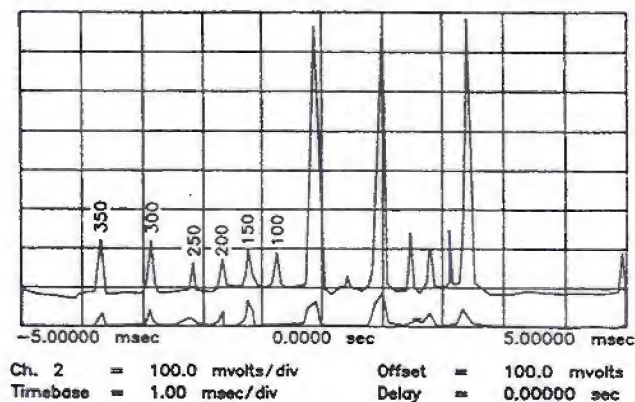

Figure 5-17. Frequency Response of Notch Filters, 765 MHz Setting.
5. The oscilloscope display for nonadjusted Notch Filters is shown in Figure 5-17.
6. Observe the oscilloscope Chan 2 display (beat notes) and refer to Figure 5-17. Adjust A4L38 (100 MHz Notch Filter) until you see the 100 MHz beat note change on the display, then adjust the beat note for minimum amplitude.